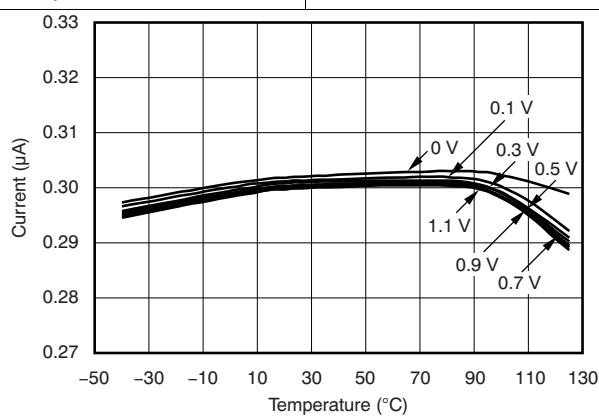

Figure 28. TPS386040 CT1 to CT4 Pin Charging Current vs Temperature Over CT Pin Voltage
(1) Toggling WDI for a period less than t_{WDI} negatively affects I_{DD} .
(2) These specifications are beyond the recommended V_{DD} range, and only define $\overline{\text{RESETn}}$ or RESETn output performance during V_{DD} ramp up.
(3) The lowest supply voltage (V_{DD}) at which $\overline{\text{RESETn}}$ or RESETn becomes active; $t_{RISE(VDD)} \geq 15 \mu\text{s}/\text{V}$.
(4) CTn (where $n = 1, 2, 3$, or 4) are constant current charging sources working from a range of 0 V to $V_{TH(CTn)}$, and the device is tested at $V_{CTn} = 0.5 \text{ V}$. For I_{CT} performance between 0 V and $V_{TH(CTn)}$, see Figure 28.